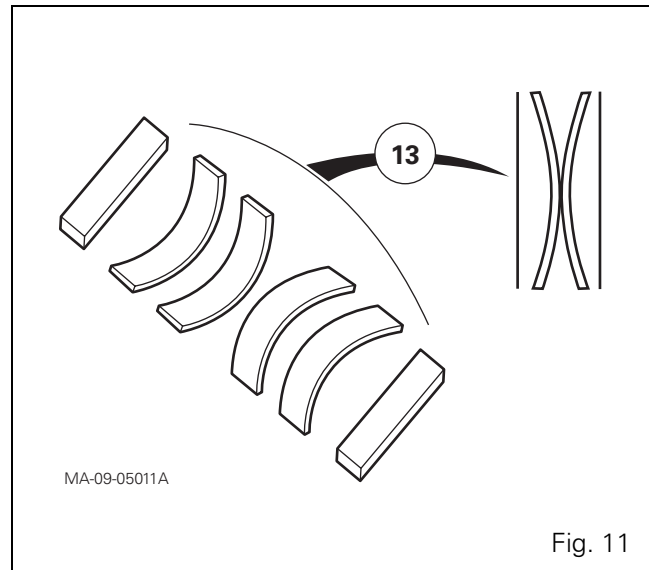

Fig. 11
- 16.** Reassemble the non-return valve (26).
- 17.** Fit the seal (19), the O'ring (17) and the ring (15).
- 18.** Place the valve balls and springs in the recesses of the shock valves (20). Screw on the threaded bushes. Fit the seals and tighten the plugs.
- 19.** Fit the valve and spring in the recesses of the relief valve (18). Screw in the threaded bush. Fit the seal and tighten the plug to a torque of 40-60 Nm.
- 20.** Insert the spool valve (25) into the sleeve (27).
Position the centring springs (13) according to Fig. 11 and insert the pin (7).
- 21.** Position the bush (24) on the sleeve and spool valve assembly so that the chamfer facilitates assembly in the steering unit.
- 22.** Place the washers (12) and (16), the chamfer of washer (12) towards the centring springs (13), by inserting the needle bearing (14) between them.
- 23.** Fit the sleeve and spool valve assembly in the steering unit by oscillating it slightly. Check that the pin (7) is held horizontally.
- 24.** Place the two valve balls and the two pins in the recesses of the suction valves (23).
- 25.** Fit the valve ball in the non-return valve recess (22). Screw in the threaded bush.
- 26.** Position the splined link shaft (11).